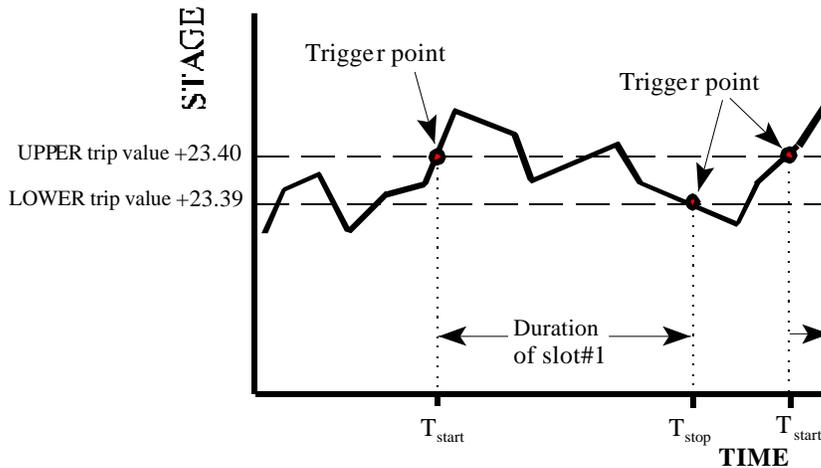

Fig. 1 Implementation of *UPPER* and *LOWER* trip values.
The columns entitled **UPPER** and **LOWER Trip Value** are used to define the values at which the alarms are to be activated (see Figure 1 below) whereas those entitled **Actions** are used to define what is to take place when either trip value is surpassed.
The terms *UPPER* and *LOWER Trip Value* require further explanation. These two values are, in fact, the same alarm point but are implemented to account for hysteresis as depicted in Figure 1, where the exact trigger points are shown for the alarm configured in the *Alarm Setup Table* above. Given that the alarm is setup to be activated by the stage (HG) of slot#0, the following can be noted with respect to Figure 1: